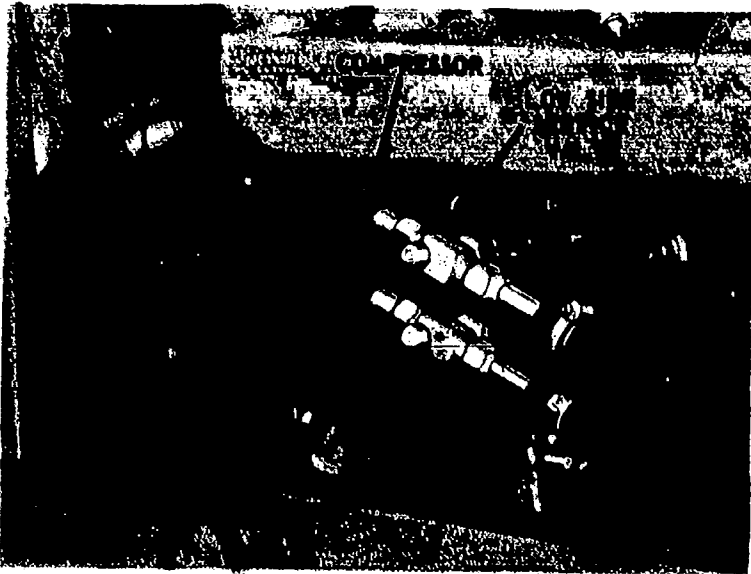

Fig. 49 — Compressor Drive Belt And Pulley
1. **COMPRESSOR DRIVE BELTS TIGHT; NOT WORN OR FRAYED; AND ALIGNED WITH PULLEYS.** The compressor belt (Fig. 49) is subjected to a heavy load during operation. This is especially true when the head pressures build up in excess of 200 psi (1380 kPa) in hot weather operation. The belt must be in excellent condition to withstand the strain of heavy loads. If the pulleys are not properly aligned, extreme side wear to the belt and pulleys will result. Too tight a belt tension will result in strain to the bearings of units operated by the compressor belt. Too loose a belt tension will result in belt slippage and poor performance. A belt tension gauge eliminates guesswork in tightening the compressor belt. If a belt tension gauge is not available, tighten until there is  $\frac{3}{8}$ - to  $\frac{1}{2}$ -inch (10- to 13-mm) deflection between any two pulleys that are farthest apart.